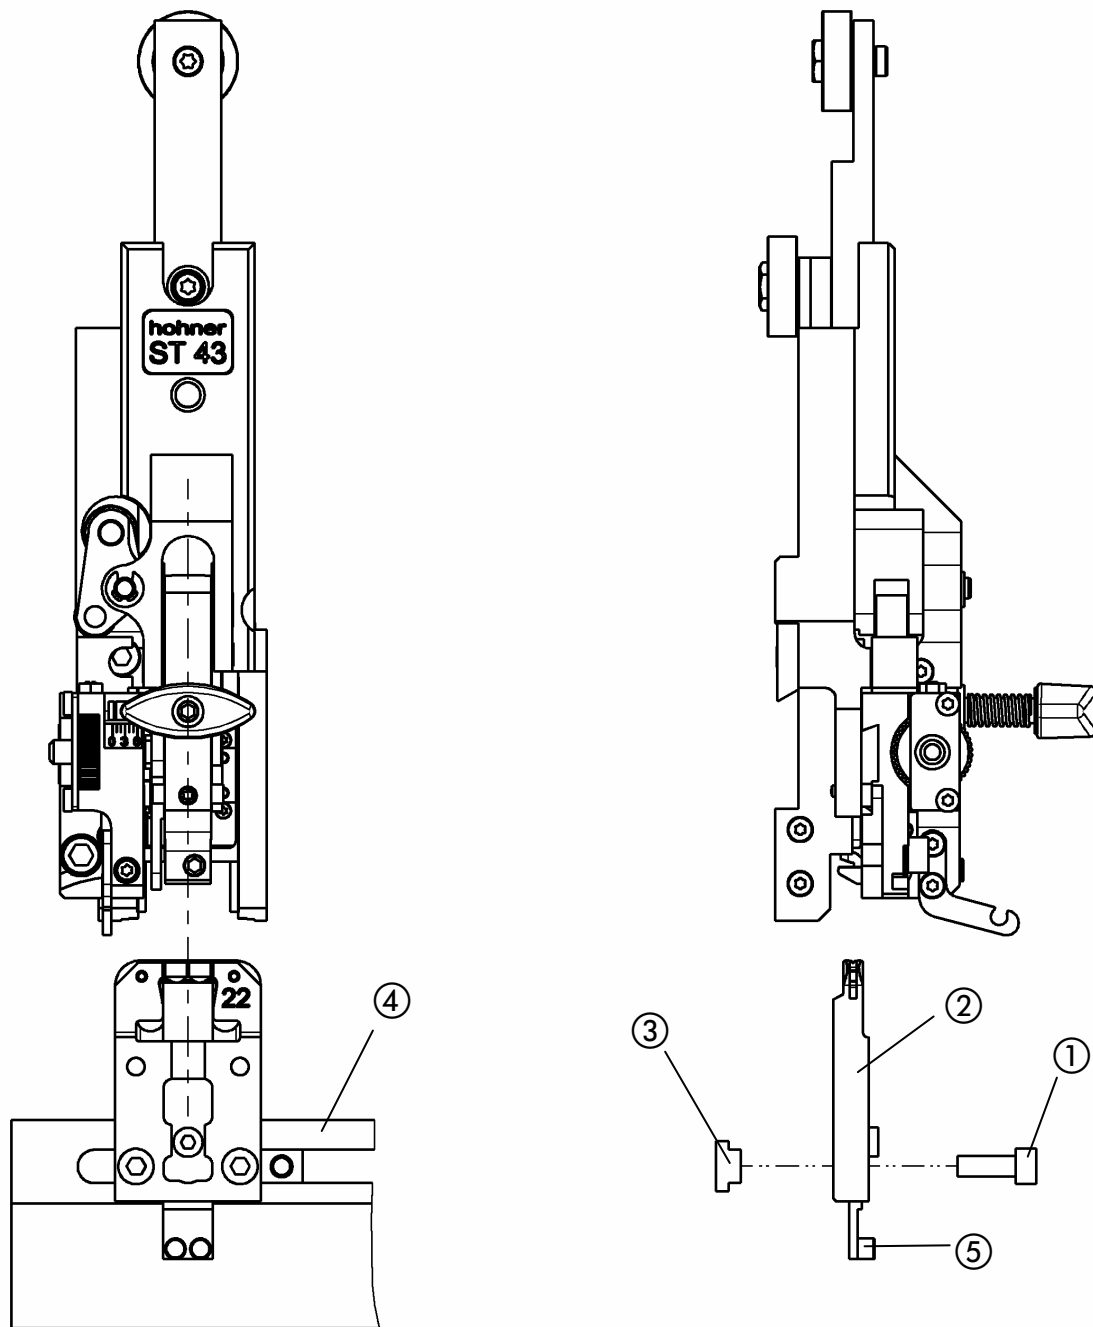

Fig. 5
- Fig. 5 -
- First remove the fastening screws ①, the clincher box ② and the tenon block ③.
- Push the tenon block ③ in the crosshead ④ from the back.
- Place the clincher box ② on the crosshead ④ from the front and make sure that the tappet ⑤ is positioned in the corresponding stroke bar.
- Fasten the clincher box ② with the tenon block ③ in the crosshead ④ by means of the fastening screws.